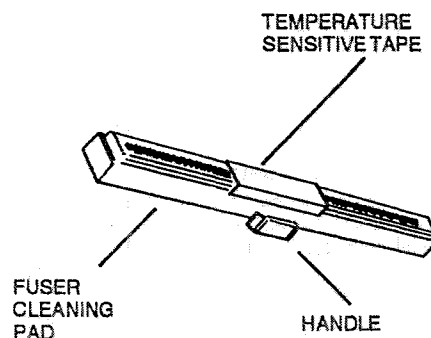

Figure 2. Fuser temperature tape
6. Remove the fuser cleaning pad from the fuser assembly. Fix a strip of fuser temperature tape (600T90855) to the fuser cleaning pad (Figure 2).